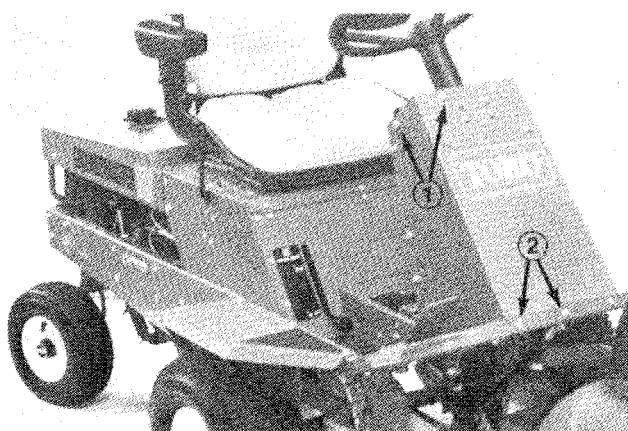

Figure 1
1. Remove (2) screws (1-front & 1-right side) securing front of steering tower to top of steering tower (Fig. 1). Retain screws for reassembly of deck.
3. Remove (2) screws (center and right) securing bottom of tower to frame channel (Fig. 1). Retain screws for reassembly.